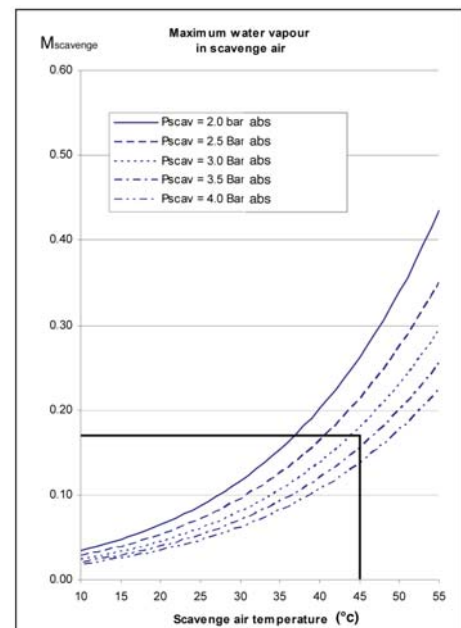

Figure 2
2. The maximum amount of water vapour in the scavenge air (M_{scavenge}) is found in *figure 2* based on measurements of scavenge air pressure and temperature.
2) $M_{\text{scavenge}} = 0.17 \text{ kg/kWh}$ found from *figure 2* (as outlined)